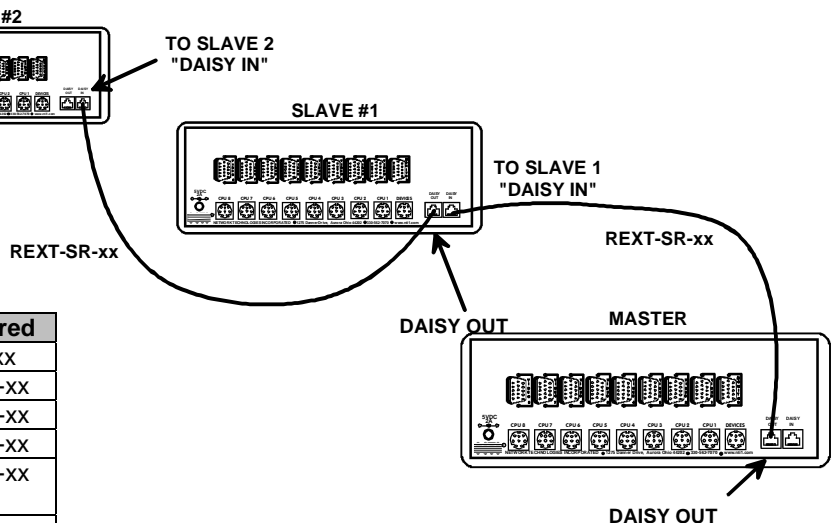

Figure 16- Installation of remote extension cables between units
- With another RMT extension cable, connect slave #1's "DAISY OUT" port to slave #2's "DAISY IN" port. (See Fig. 16 below.)